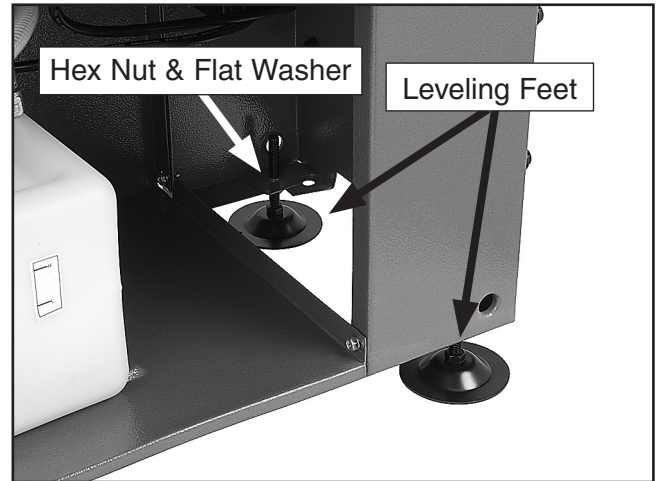

Figure 8. Leveling feet installed.
3. Screw the threaded portion of the leveling feet, followed by the flat washer and hex nut, into the base of the cabinet as shown in **Figure 8**.